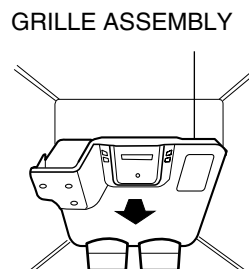

Figure 1
1. Disconnect water supply tube by pushing back on the disconnect ring (3).-FIG. 1
2. Open door. Loosen top hinge cover screw (1).
1. Pull out the grille assembly. (Figure 1)